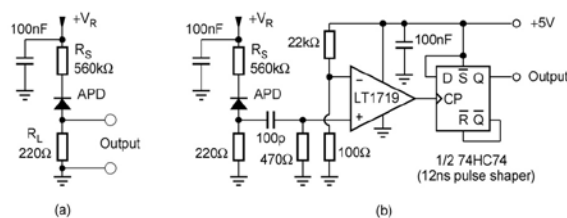

Fig. 7: (a) the passive quenching circuit, (b) the same followed by the constant level discriminator and the pulse shaper.
In order to fully assess the characteristics of APDs in Geiger mode one must use some kind of a quenching circuit. In most measurements a simple passive quenching (PQ) circuit shown in Fig. 7(a) can be used, optionally followed by a home-made constant level discriminator (CLD) and a 12 ns pulse shaper as shown Fig. 7(b). A threshold level of the CLD is fixed at 22.5 mV. Due to the capacitive coupling, the circuit in Fig. 7(b) can measure avalanches up to over 2 MHz and is highly immune to the paralyzation effect. If the current limiting resistor R_S is chosen sufficiently large, an avalanche will cease (quench) by itself within a sub-nanosecond timescale.